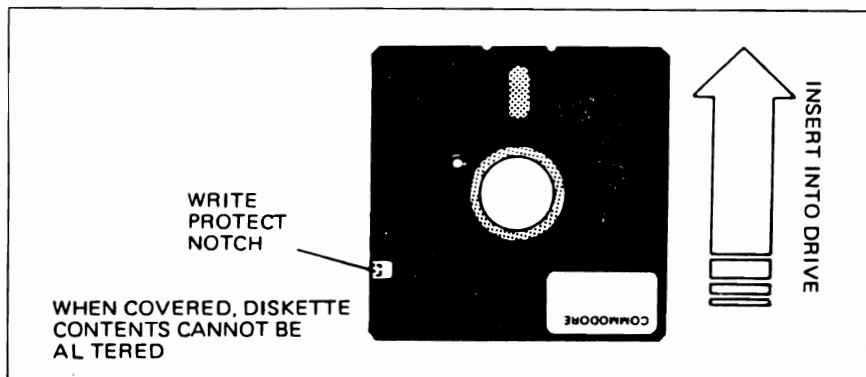

Figure 4. Position for Diskette Insertion
- Figure 4: Position for diskette insertion**
If you have another 1551 disk drive, plug that interface connector into the slot in the first interface connector. Don't try to use more than one disk drive until you've learned how to change their device numbers, as no two disk drives can have the same device number. We'll cover ways of changing disk device numbers in Appendix A. Until you are ready to read that section, you may find it easier to leave your extra drive(s) unconnected (see Figure 4).
Grasp the diskette by the side opposite the large oval access slot, and hold it with the label up and the write-protect notch to the left (See Figure 4). Now insert the diskette by pushing it straight into the slot, the access slot going in first and the label last. Be sure the diskette goes in until it stops naturally, with no part showing outside the drive, but you shouldn't have to force or bend it to get it there.